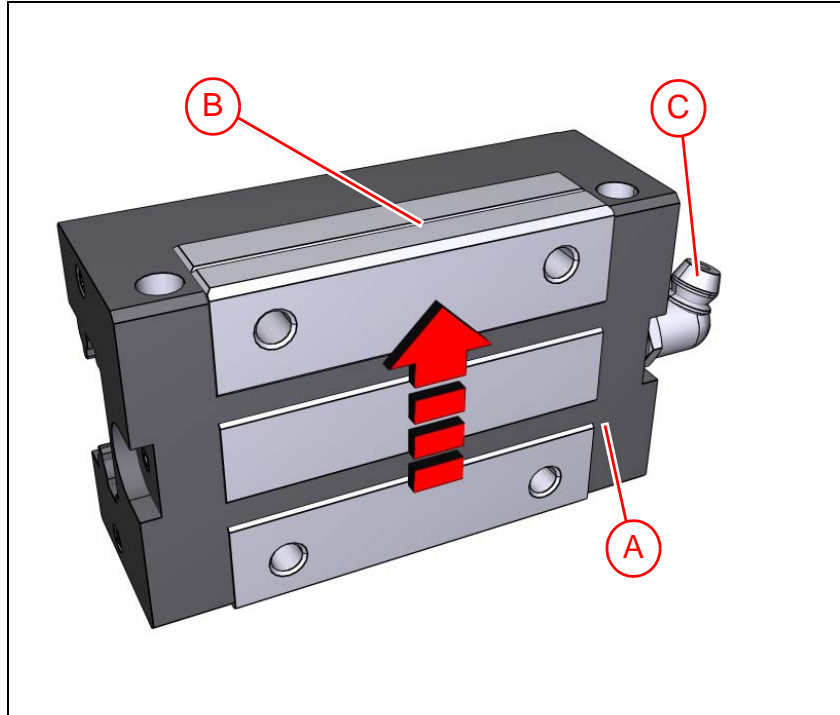

Figure 5-22. Upper right linear guide block with groove mark.
2. When reattaching the linear guide blocks note that on top of the **upper** linear guide blocks ('A' in Figure 5-22), are groove marks ('B') which are used as guide surfaces for the mount head carrier plate and **must** face upwards when installed (see Figure 5-22).